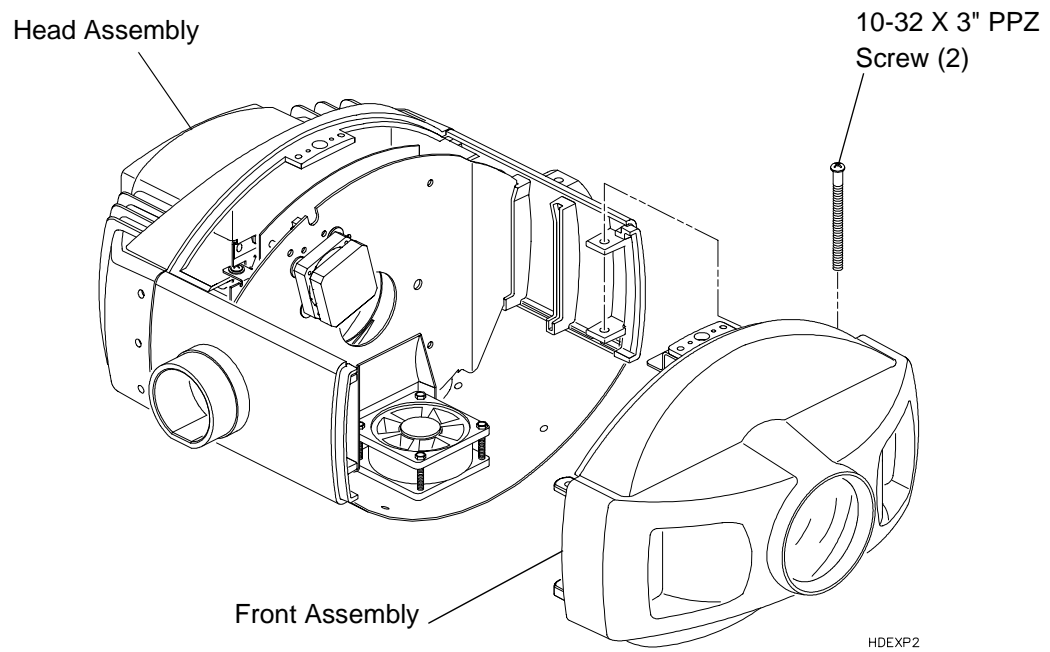

Figure 2-6: VL6 Luminaire Front Assembly Replacement
- Step 4. At front of bulkhead, using #2 Phillips screwdriver, remove two 10-32 X 3" PPZ screws and remove front assembly from head assembly. **Figure 2-6.**